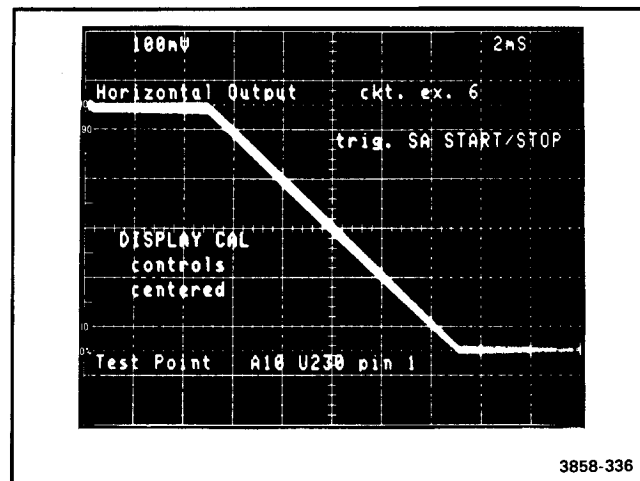

Figure 3-16. Waveform for Horizontal Output test.
- 32) Horizontal Output (6). If this test fails, place the Display Board on an extender and run circuit exercise 6. Use an oscilloscope to troubleshoot the Horizontal Output. Waveform Figure 3-16 is a typical output of this test. The SA Start/Stop line provides a stable oscilloscope trigger while using this test for troubleshooting.